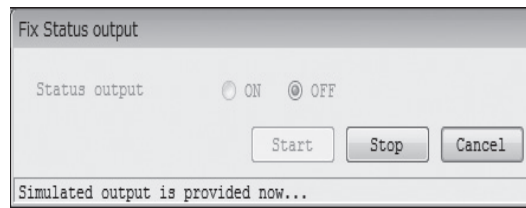

Fig.134
- ④ Click the "OK" button to cause the simulated output state to be outputted. While the simulated output is being outputted, a message at the bottom of the window will indicate that the system is "creating simulated output", as shown in Fig. 134.